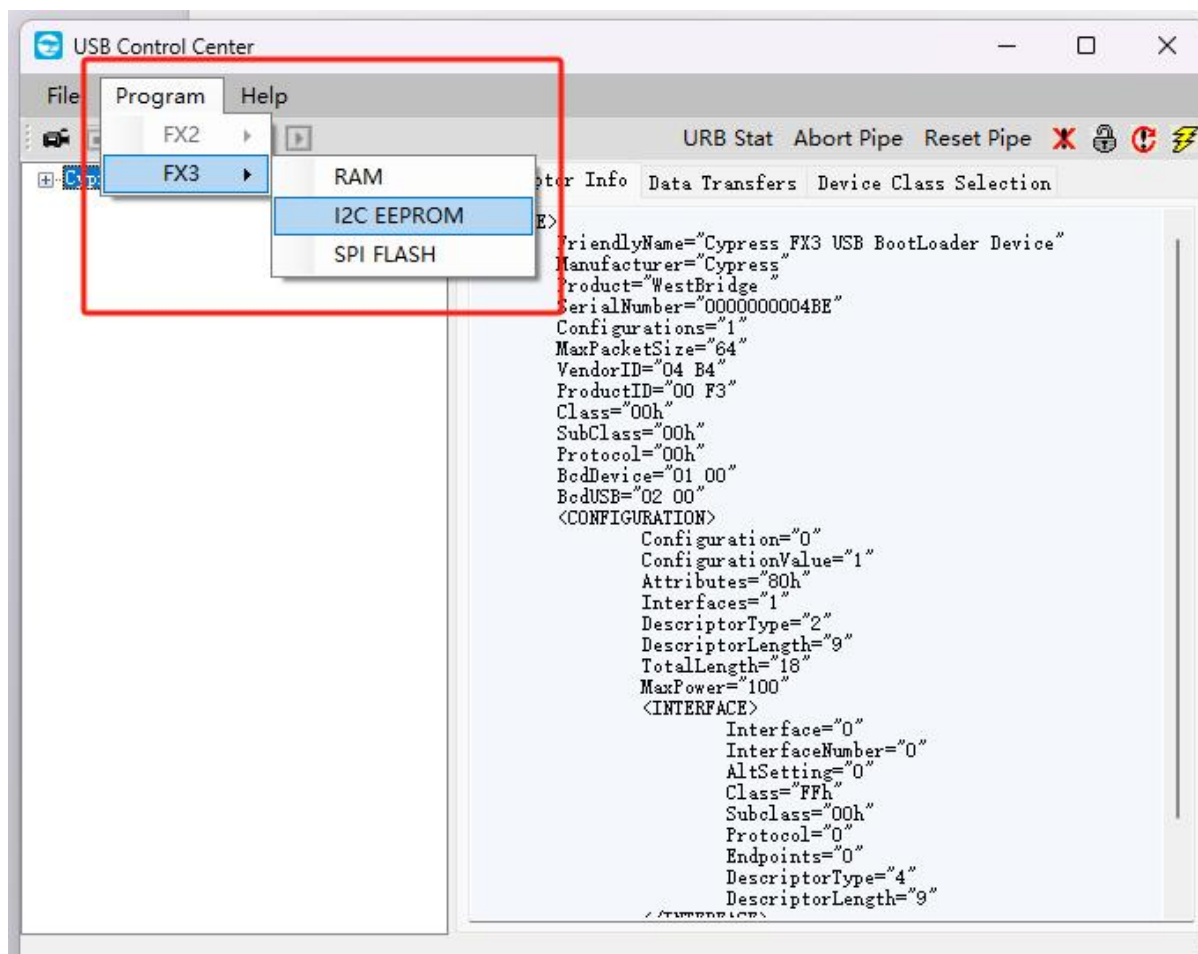

Figure 1-27
Step 4: As shown in Figure 1-27, in the upgrade interface, select "I2C EEPROM". After selection, a pop-up window for path selection will appear. Choose the firmware to be upgraded and click "Open".